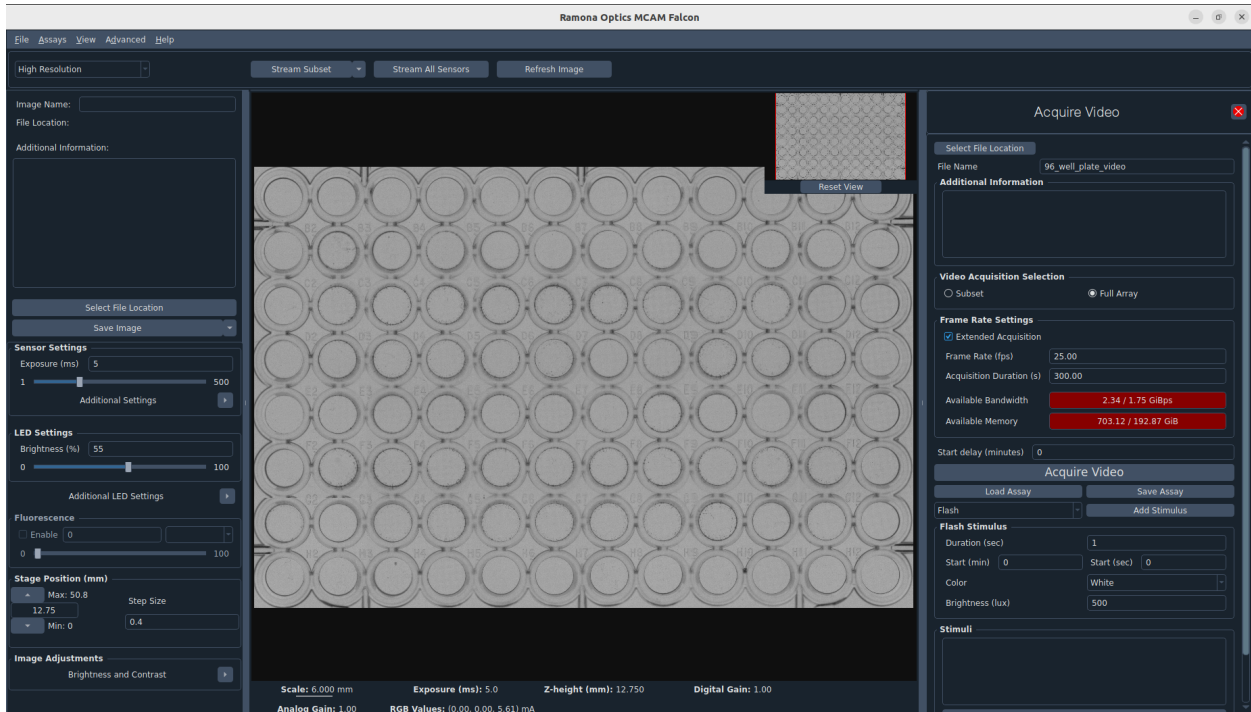

Fig 91: “Extended Acquisition” mode activated on “Acquire Video” panel.
2. The recording duration must be done in "Extended Acquisition" mode (Fig 91).